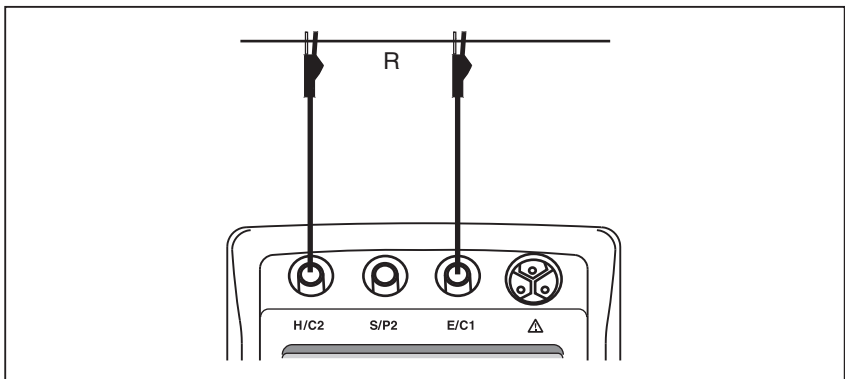

Figure 5. AC Resistance Measurement
2. Plug a test lead into jack H/C2 and a test lead into jack E/C1. See Figure 5.
3. Connect the test leads to each end of the conductor under test. See Figure 5.